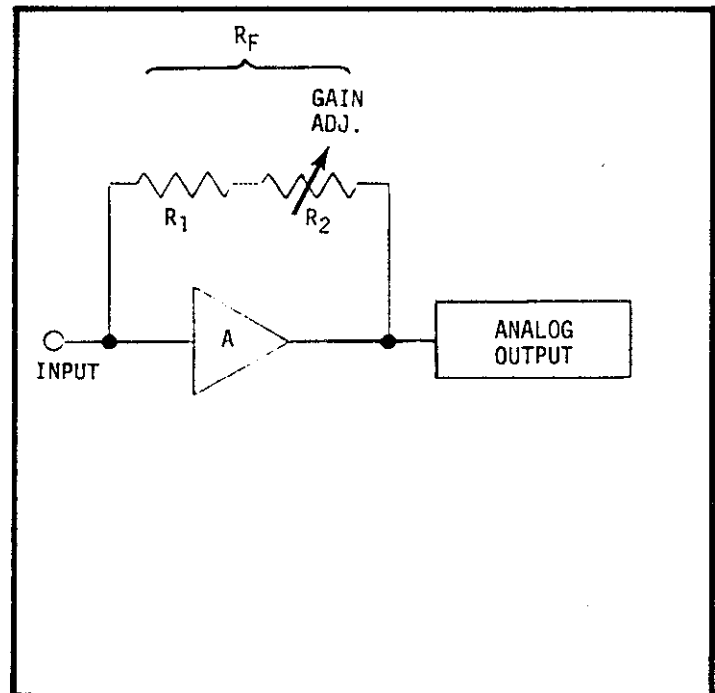
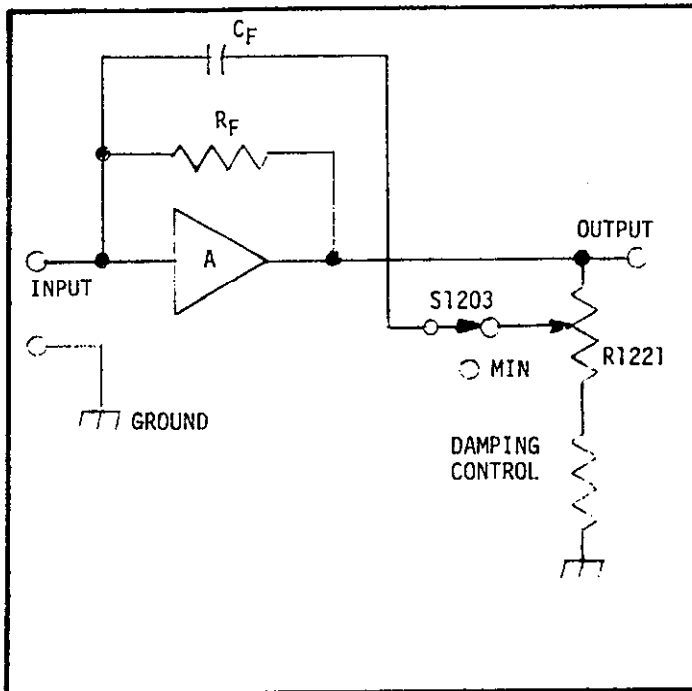
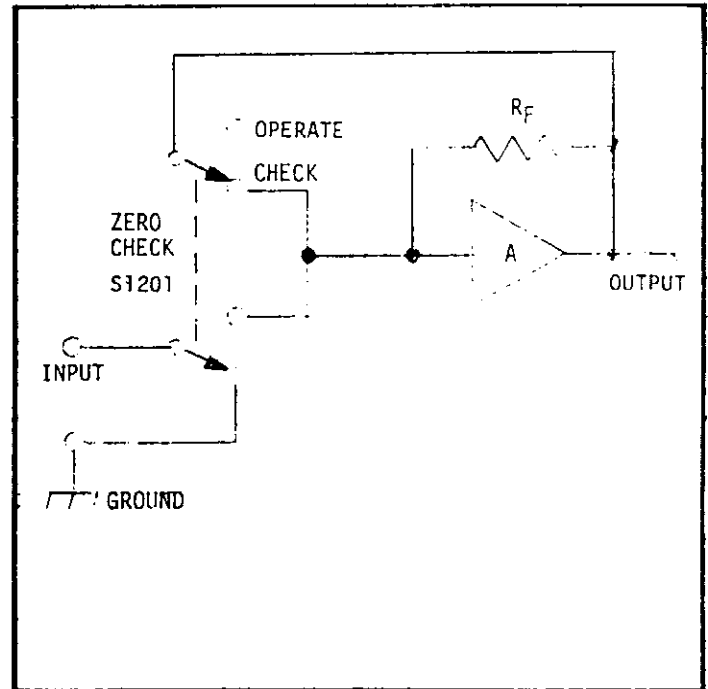

FIGURE 7. Gain Calibration of Amplifier.
FIGURE 8. Damping for Ammeter.
FIGURE 9. Zero Check Operation.
b. Circuitry. The amplifier input stage is a pair of insulated-gate, field-effect transistors (IGFET) designated Q1201 and Q1202 connected in a differential configuration. The circuit designated 21850B is a special overload protection circuit on the Input FET board (which connects to J1201). The gate of Q1201 is connected to the input through 10M ohms. The gate of Q1202 is referenced to ground. Potentiometer R1205 is an internal COARSE ZERO adjustment. Potentiometer R1206 is an internal Balance control. Transistors Q1203-Q1204 form a second differential amplifier stage. Potentiometer R1211 is a front panel ZERO adjustment. Transistor Q1205 and emitter follower transistor Q1206 provide sufficient gain for the analog output and A/D converter. The analog output is connected through R614 (499 Ω) to the dc amplifier output (the junction of R1220 and D1203). The full scale current sensitivity is determined by the range resistor connected across the feedback. The range resistance R_F is composed of a fixed resistance R_1 plus a calibration adjustment resistance R_2 as shown in Figure 7. Potentiometer R1221 controls the amount of damping on the PICO AMP and NANO AMP ranges only. Switch S1203 defeats the damping feature when set to "MIN" or open position. The damping circuit is shown in Figure 8. When switch S1201 is set to ZERO CHECK the picoammeter is connected as shown in Figure 9. It should be noted that the feedback resistor R_F is shorted out and the input High terminal is shorted to ground.